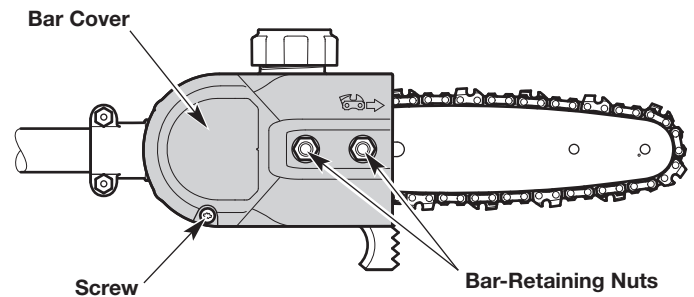

Fig. 11
1. Remove the screw and two (2) bar-retaining nuts (1/2 inch) (Fig. 11).
2. Remove the bar cover (Fig. 11).
1. Loosen the bar-retaining nuts, but do not remove them (Fig. 11).